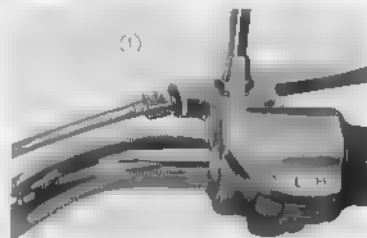
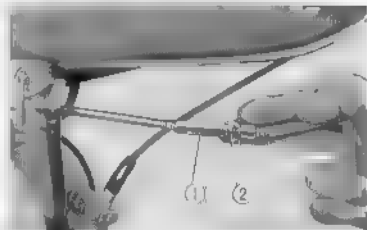

Fig. 4.16A (1) Clutch cable upper adjuster
Fig. 4.16B (1) Clutch cable adjuster (2) Lock nut
**NOTE:** The adjustment of the clutch lever free travel can be made at both clutch cable upper adjuster (1) (Fig. 4.16A) and at the clutch cable adjuster (2) (Fig. 4.16B).